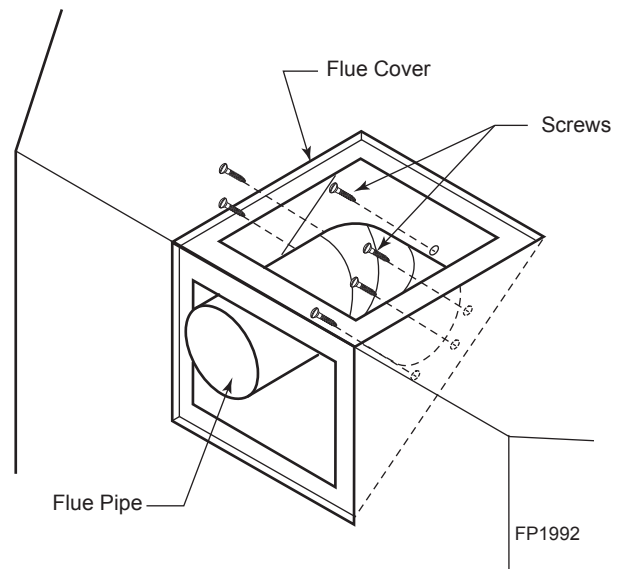

Figure 8 -
4. Remove six (6) screws securing the flue pipe to the back of the intake box and remove the pipe and gasket. *Figure 8*